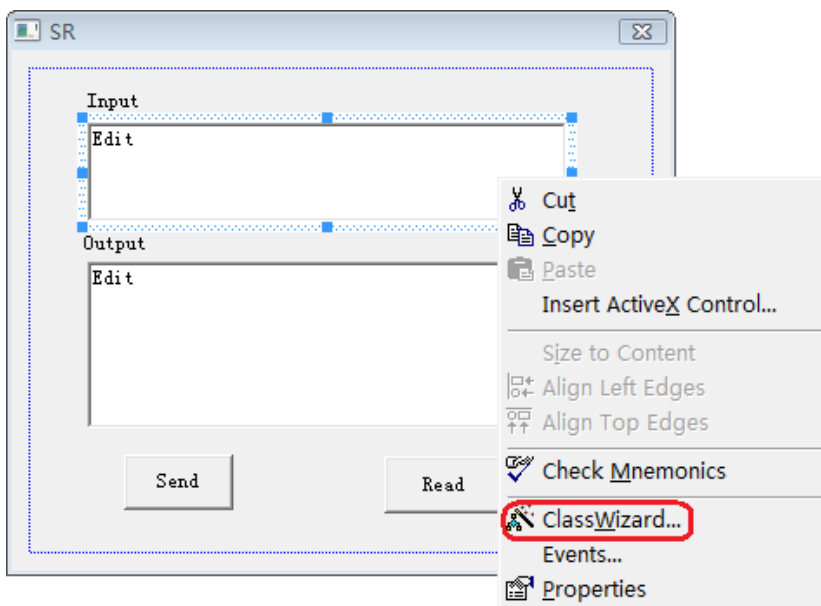
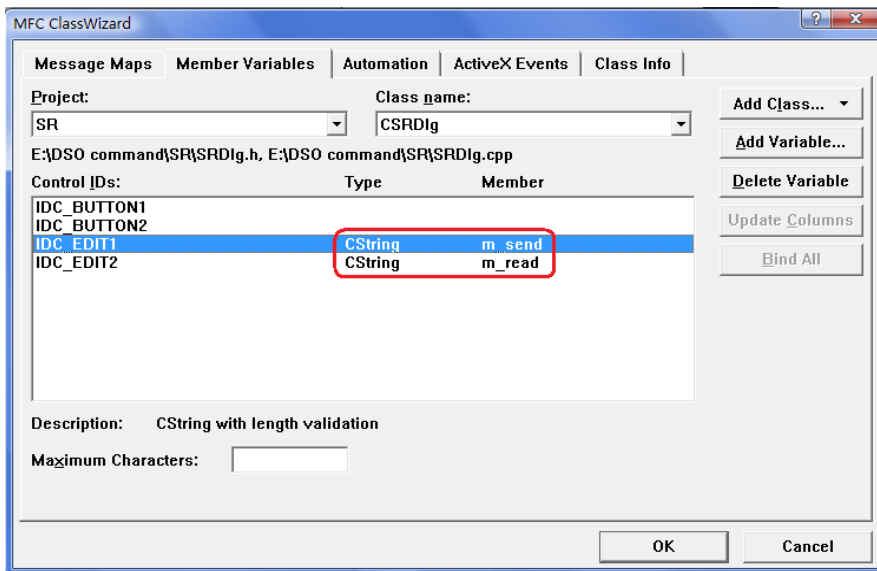

Figure 4-1-5 43
Figure 4-1-6
(1) Add two Static Text controls respectively named as Input and Output.
(2) Add two Edit controls, and then add two variables--m_send and m_read to them respectively. See figure 4-1-5 and figure 4-1-6.